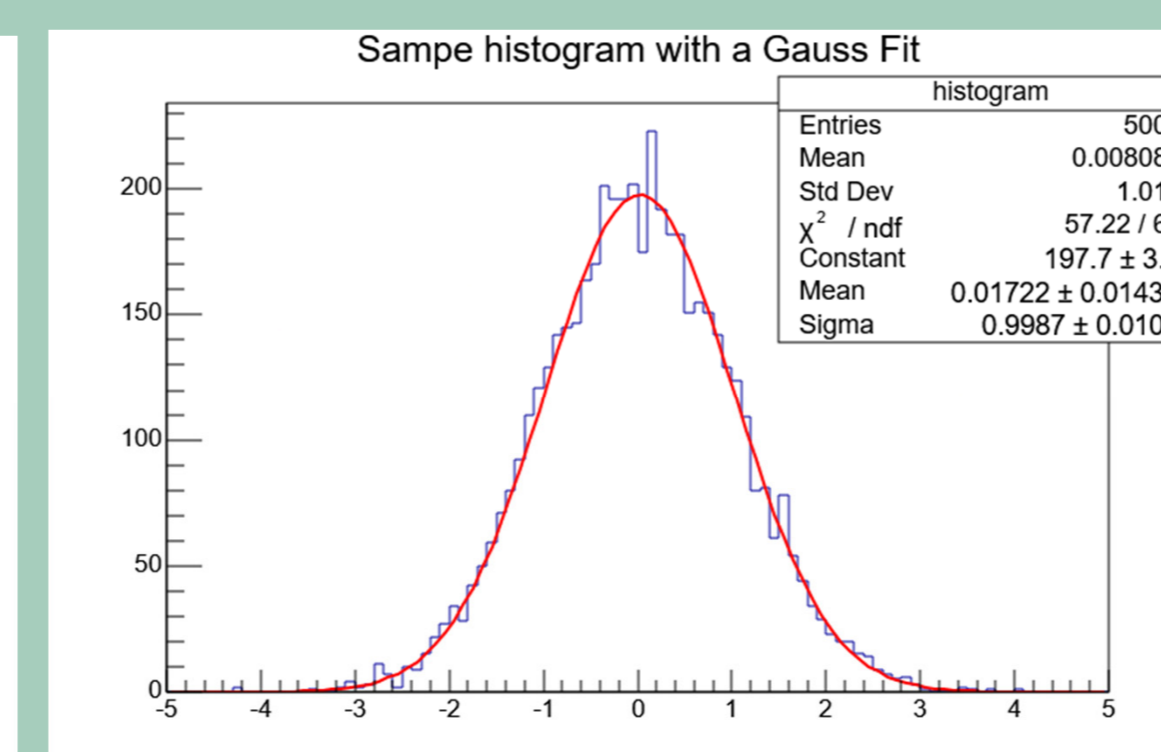

Figure 3. A sample histogram with Gaussian fit.
- Figure 3 is the sample histogram with a Gaussian fit. Poisson error bars for each histogram column are assumed.